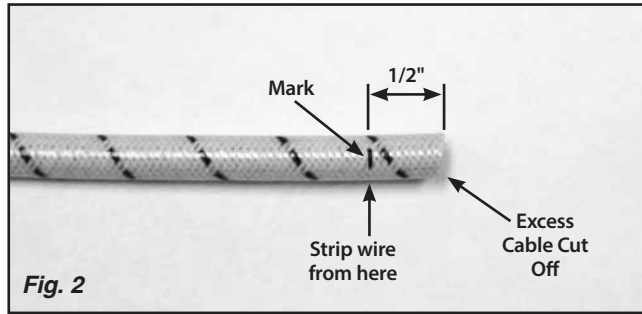

Fig. 2
Step 6: Measure and make a mark 1/2" from the end of the cable you just cut. **Fig. 2** Use a **sharp** utility knife to CAREFULLY cut through the braided fabric cover and approximately 1/16" into the insulation, all the way around the cable.